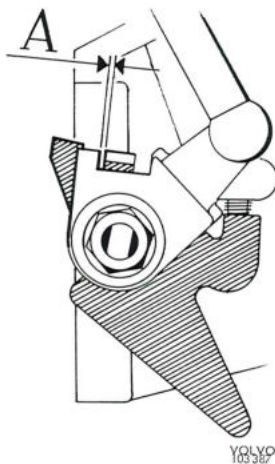

Fig. 2-95. Setting the control
5. Adjust the link rod. With the control against its stop on the manifold bracket, the link rod should be adjusted so that there is a clearance of about 0.1 mm (0.004") between the lever and the flange of the primary throttle spindle. See Fig. 2-95.
5. Adjust the link rods. With the control against its stop on the manifold bracket, the link rods should be adjusted so that there is a clearance of about 0.1 mm (0.004") between the lever and the primary throttle spindle flange. See Fig. 2-95.
5. Adjust the link rods. With the control against its stop on the manifold bracket, the link rods should be adjusted so that there is a clearance of about 0.1 mm (0.004") between the lever and the flange of the primary throttle spindle. See Fig. 2-95.